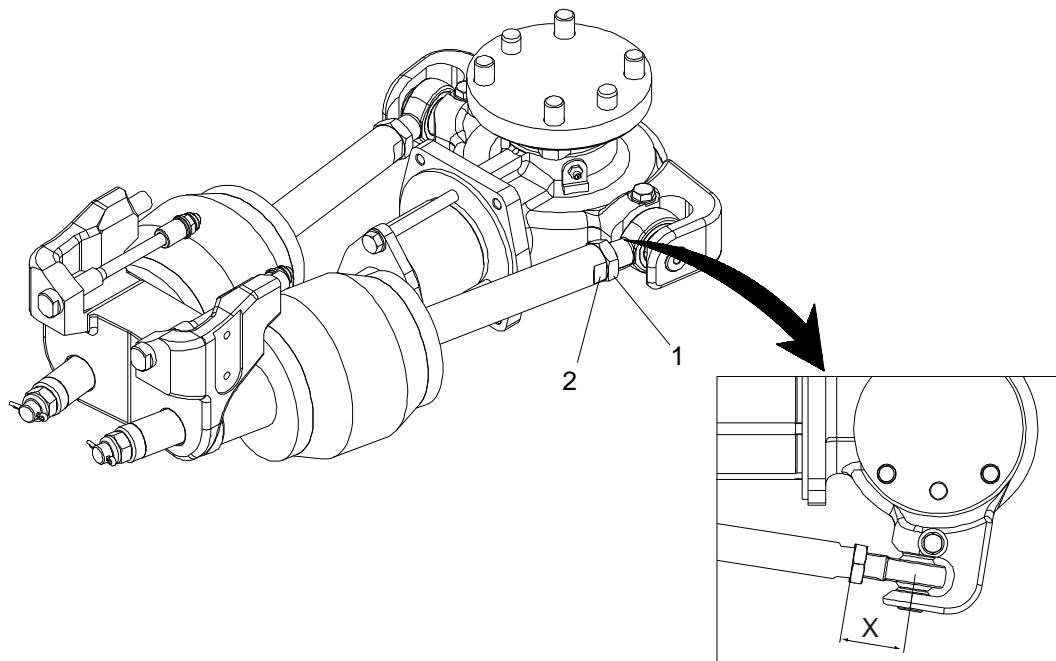

Figure 5-7: Test Support and Centering
**THE DISTANCE X IN FIGURE 5-7 MUST UNDER NO CIRCUMSTANCES EXCEED 70 MM.**
1. Loosen the nut (1) on both dampers.
2. Turn the key handle (2) on both dampers the same number of turns. Clockwise to raise the coupler and counter clockwise to lower it.
3. Tighten the nut (1) after adjustment.